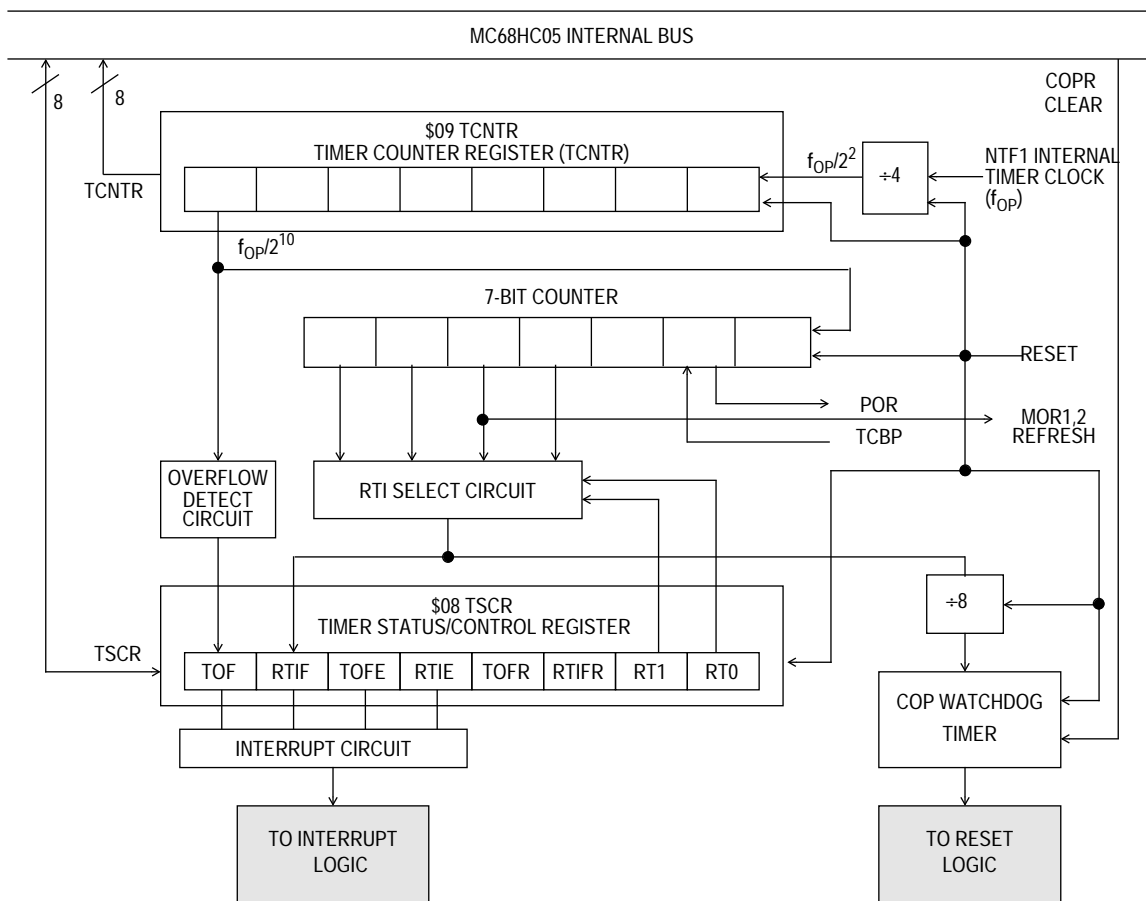

Figure 8-1. Timer Block Diagram
As shown in **Figure 8-1**, the timer is driven by the timer clock, NTF1, divided by four (4). NTF1 has the same phase and frequency as the processor bus clock, PH2, but is not stopped by the wait or halt modes. This signal drives an 8-bit ripple counter. The value of this 8-bit ripple counter can be read by the CPU at any time by accessing the timer counter register (TCNTR) at address \$09. A timer overflow function is implemented on the last stage of this counter, giving a possible interrupt at the rate of $f_{OP}/1024$. Two additional stages produce the POR function at $f_{OP}/4064$ or $f_{OP}/16$, followed by two more stages, with the resulting clock ($f_{OP}/16,384$) driving the real time interrupt (RTI) circuit.